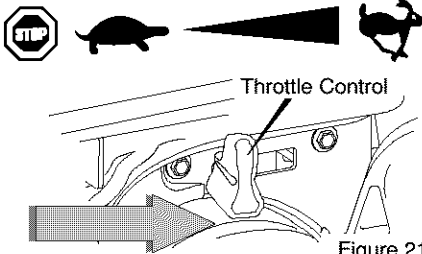

Figure 21
4. Move throttle control to "FAST" position. Operate the engine with the throttle control in the "FAST" position (see Figure 21).